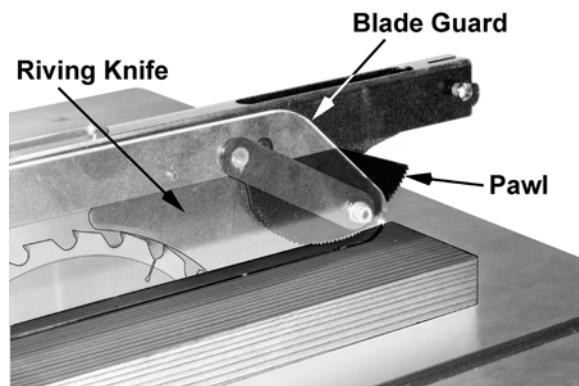

Figure 23
- As the machine receives use, the operation of the anti-kickback pawls should be checked periodically (Figure 23). If the pawls do not stop the reverse motion of a workpiece, resharpen all the points.